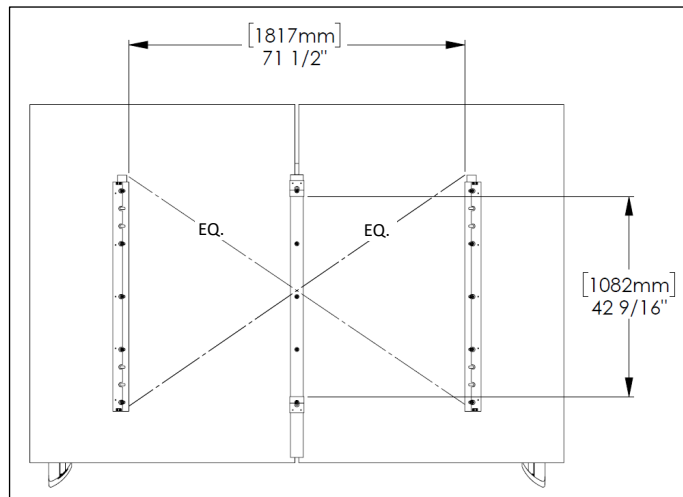

Fig. D5 – detail view of panel install
6. Place C channel extrusions on roof, with open channels facing each other as shown in Fig. D5. Center the pair of extrusions on the roof and then make small adjustments to the width between the inside faces of the extrusions until the dimension is 71-1/2". Install hardware to hold C channel extrusions in place loosely. Adjust position of the C channel until the width between them is 71-1/2" on both ends and the cross diagonal dimensions measure the same. Distance between short c-channels should be 42-9/16". See Fig D5.